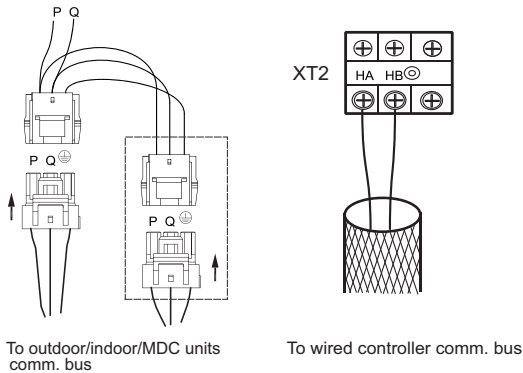

Fig. 15 —Communication Wire Connection
- See Fig. 15 for an example of communication wire connection.